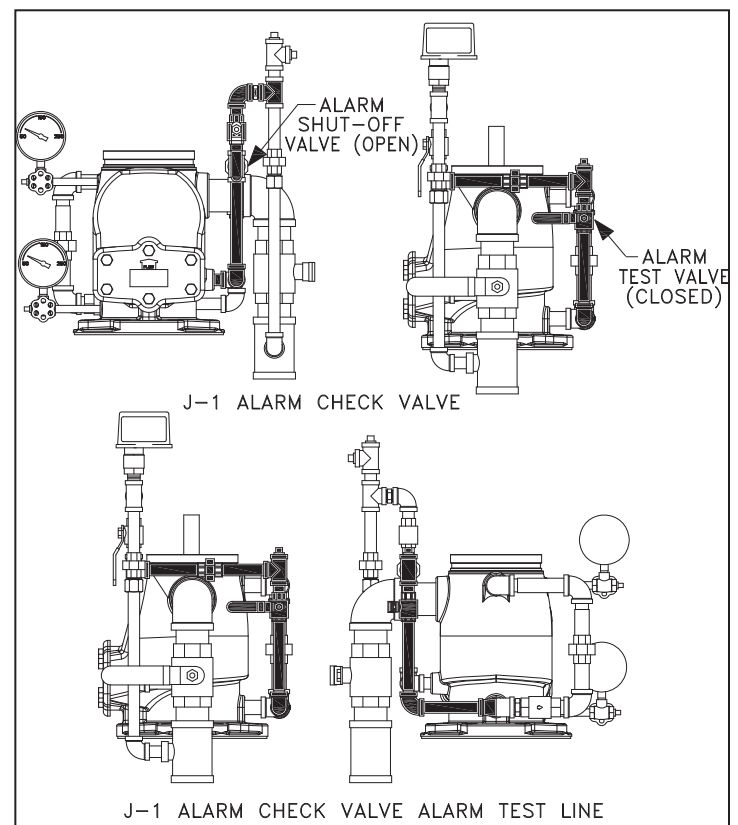

Figure 35
2. To test electric alarms (if provided) and/or mechanical water motor gong (if provided), OPEN the system test valve (Figure 35).